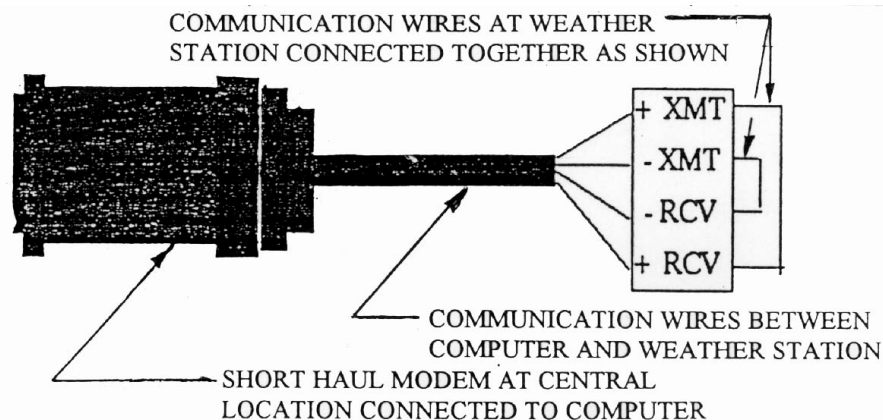

FIGURE 26 - TEST OF COMMUNICATION WIRES
- Jumper the output terminals of the **RAD SRM-5A** Short Haul Modem, located at the computer, as shown in **FIGURE 26** below.
- Using a working ("Good") RAD SRM-5A Short Haul Modem connect the communication wires together at the weather station end as shown in **FIGURE 26** below.
- At the Weather Station, disconnect the communication wires from the MSP-1 pipe surge arrestors and tie the wires together as shown in FIGURE 26 below.
- Assuming you have connected the communication wires correctly at the weather station end, as shown in FIGURE 26 below, what you type at the computer will be echoed back to the computer screen. Testing in this way will verify that the communication wiring is "Good". If you do not see the characters on the screen, that you have typed, then you know that there is a problem with the communication wiring.
- Assuming you have connected the output terminals of the modem as shown in FIGURE 26, what you type will be echoed back to the computer screen. Testing the Short Haul Modem in this way will verify that it is working properly. If you do not see the characters, that you type, on the screen then the Short Haul Modem has a problem and needs to be replaced.